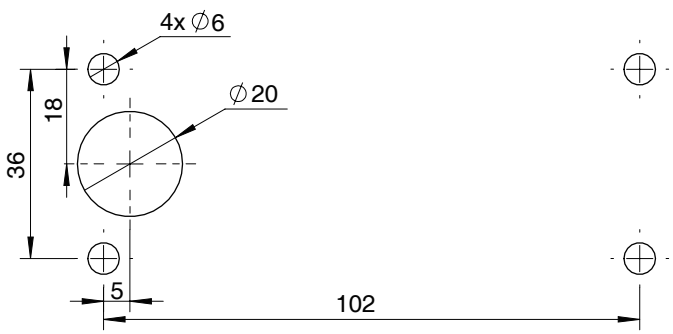

Figure 2-7
① Drill holes on the hull through the fixing guide referring to the figure 2-7.